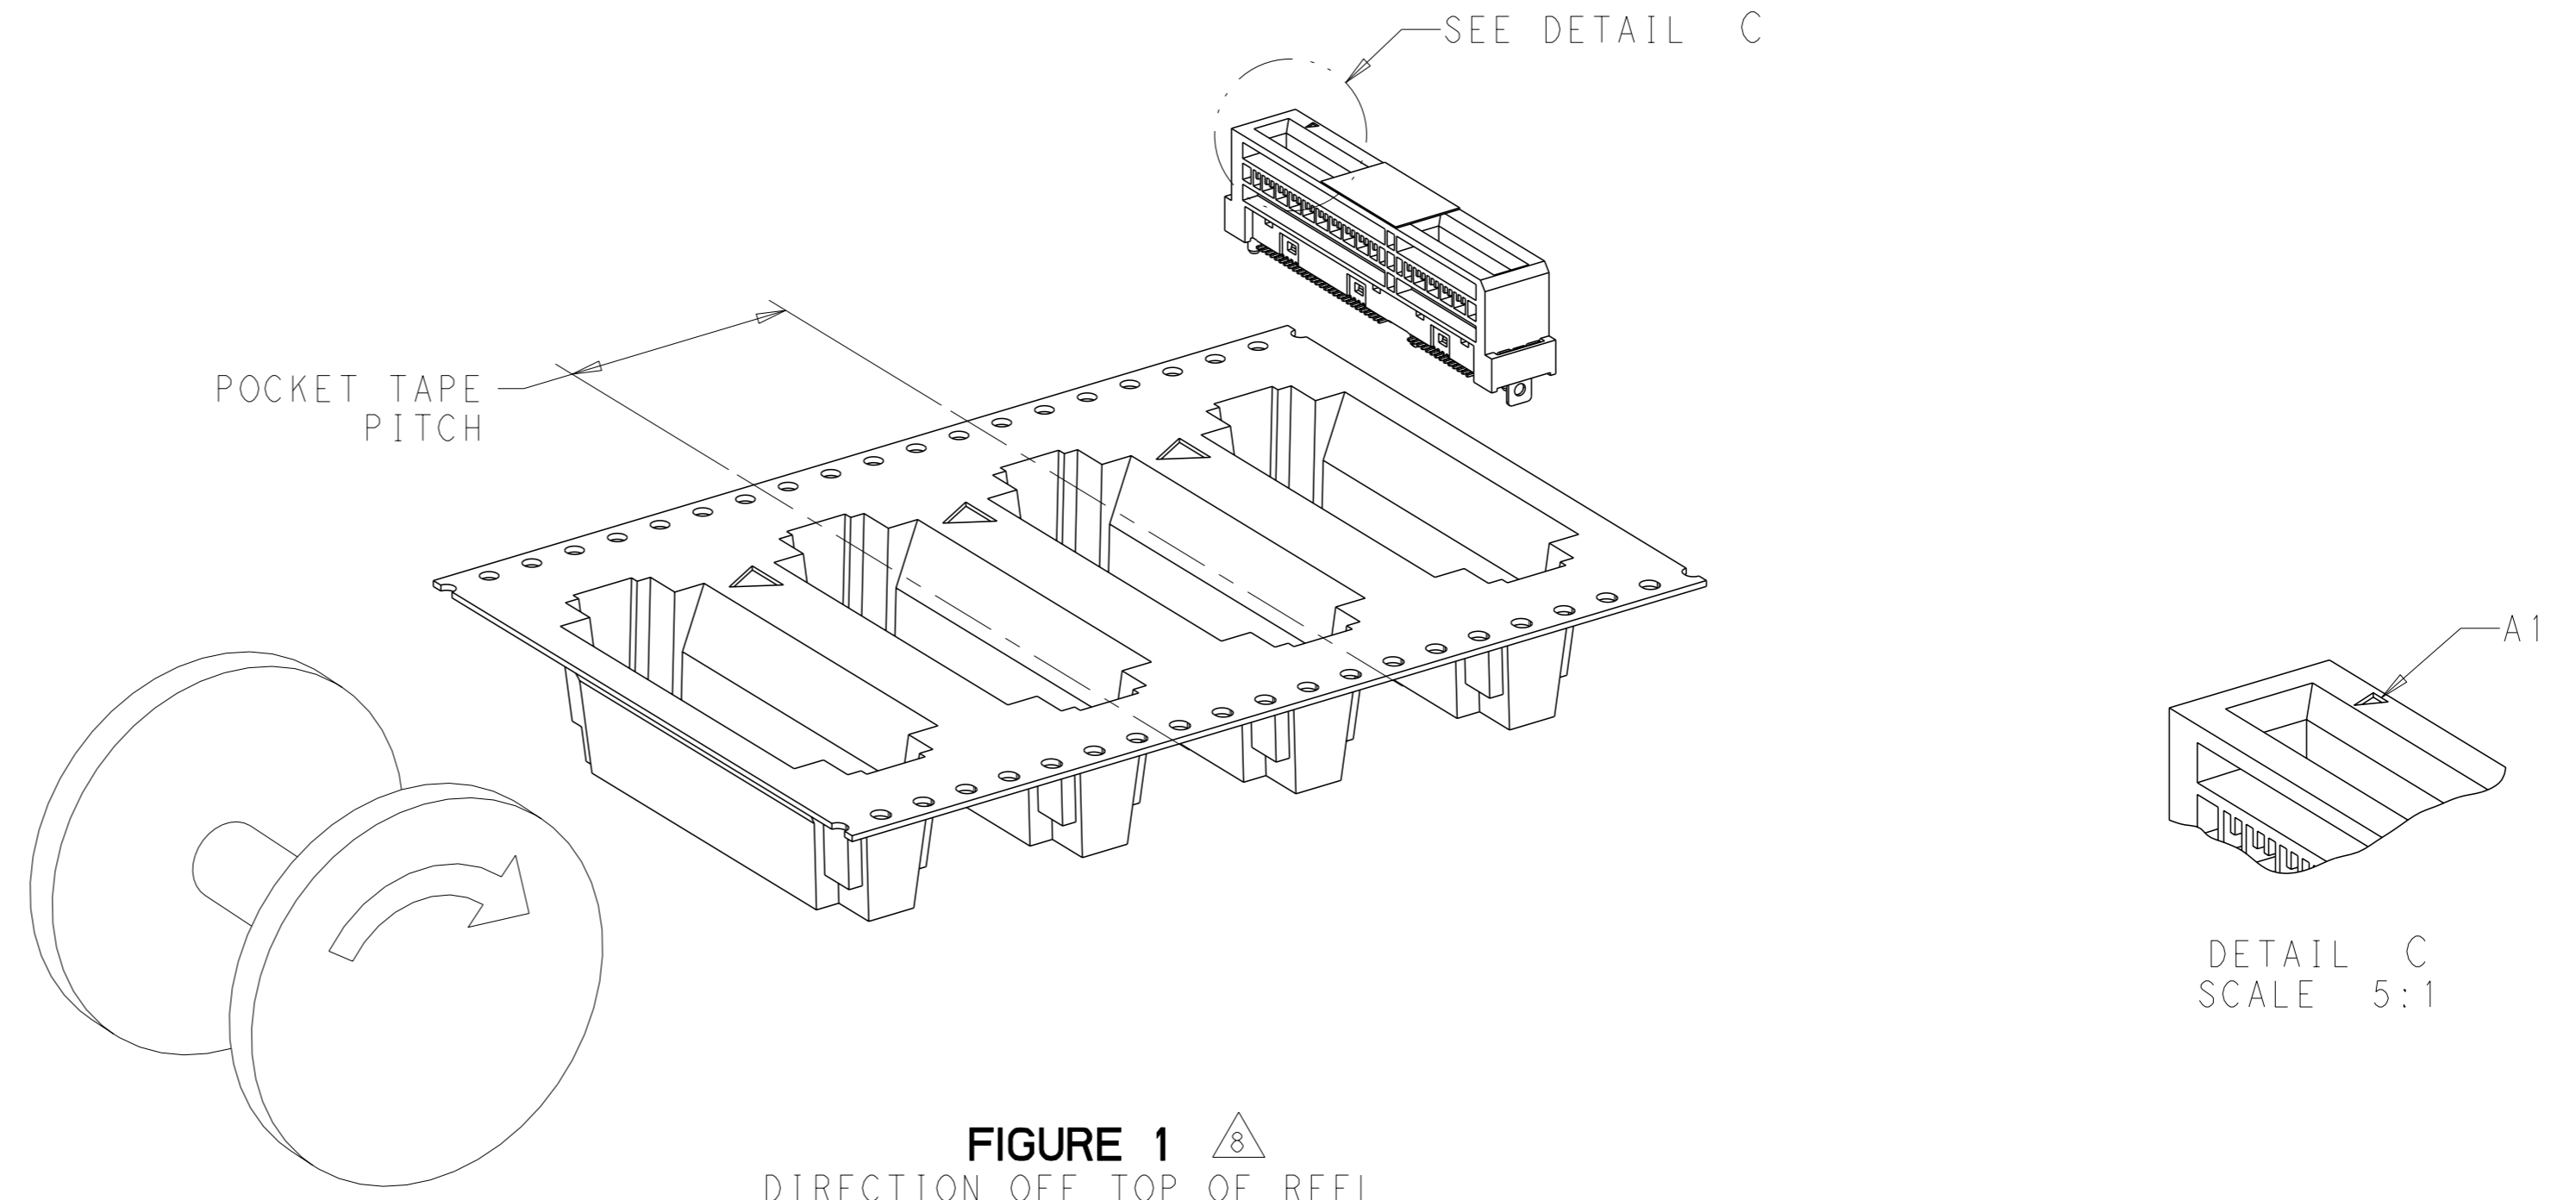

FIGURE 1
- ⚠ TAPE AND REEL PACKAGED FOR PICK AND PLACE SMT PROCESSING, SEE FIGURE 1. POCKET TAPE WIDTH = 56.